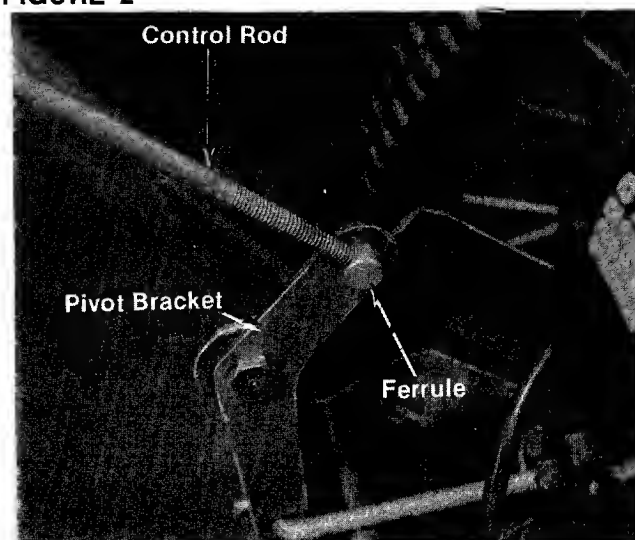

FIGURE 3
4. Place the ferrule, with the larger hole, into the pivot bracket on the left rear side of the mower and thread in the short (22 inch) control rod until the threads are even with the end of the ferrule. (See figure 3.)